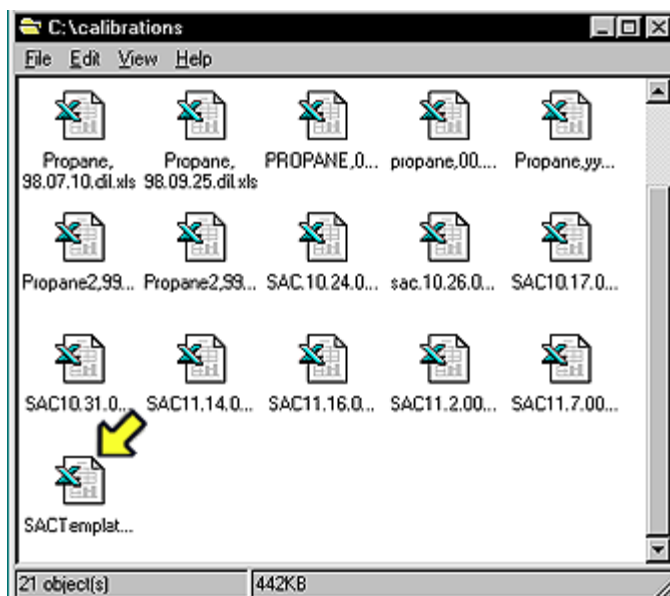

Figure 15
- 119 From the "Calibrations" screen, select the "SacTemplat" icon. See the arrow in Figure 15.